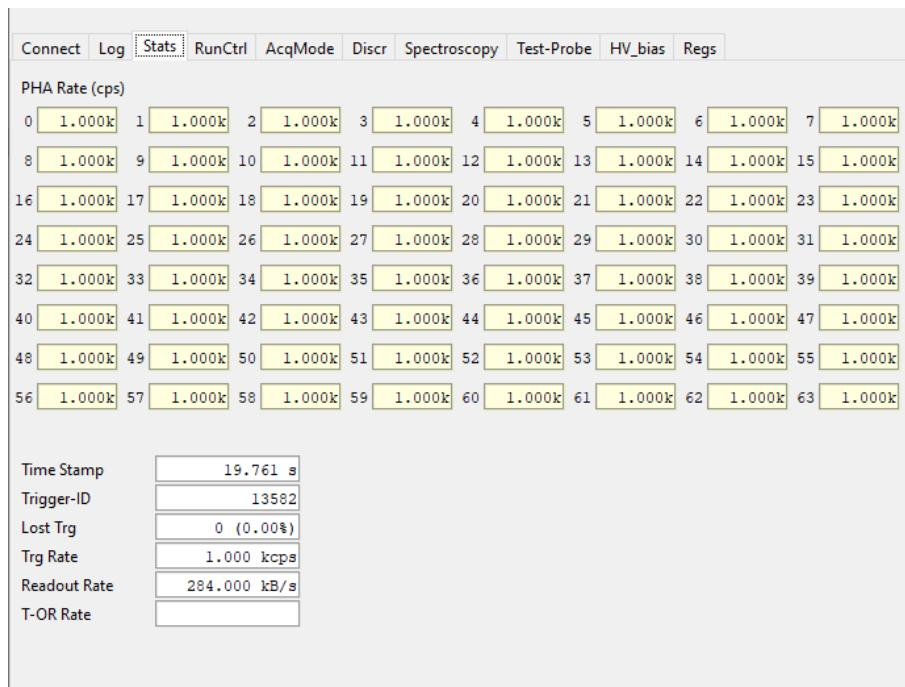

Fig. 10.26: The Stats tab of the Janus software GUI.
12. By selecting "PHA Rate" for the "Statistics Type" parameter of the Janus Command bar, the values of the frequency at which each channel pulse height values are sampled and converted can be visualized. The values are displayed in the "Statistics" window of the Janus software together with other information regarding the ongoing acquisition run (see Fig. 10.26). By selecting "PHA Cnt", the trigger counted since the start of the acquisition are displayed.